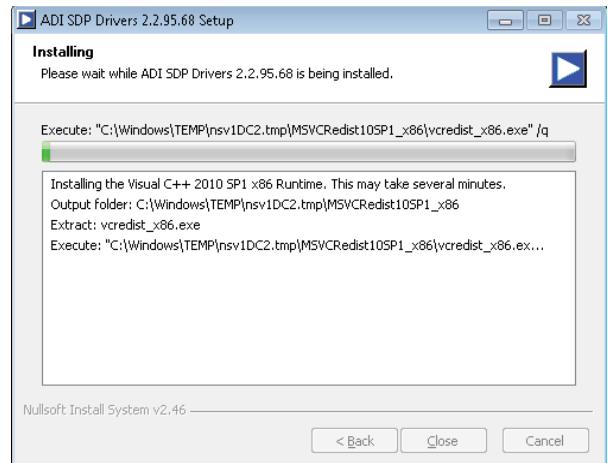

Figure 12. ADI SDP Drivers Installing
- The installation begins and a progress bar is displayed (see Figure 12).